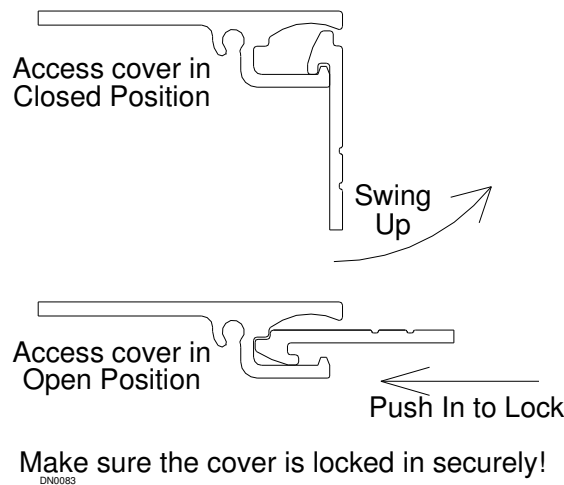

Figure 4
2. Remove two screws from bottom of cover. Open cover (See Figure 4). Remove parts box. Set aside.